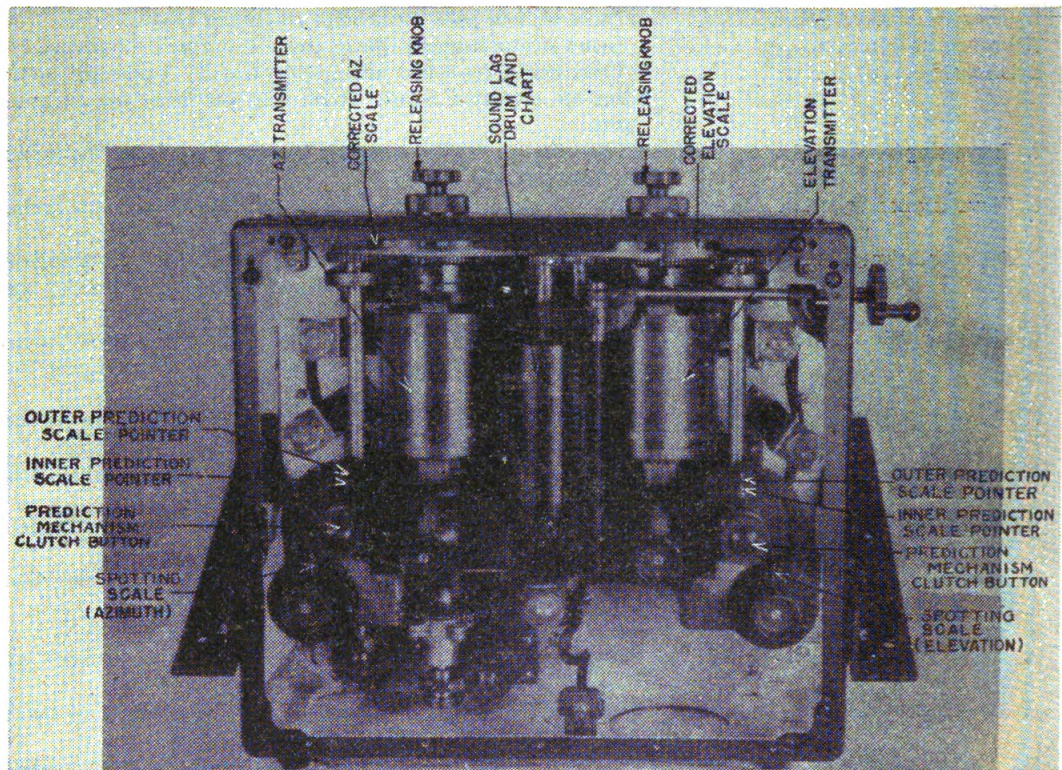

FIGURE 100.—Acoustic corrector M1.
Q. Give the nomenclature of the M1 acoustic corrector. *A.* See figure 100.